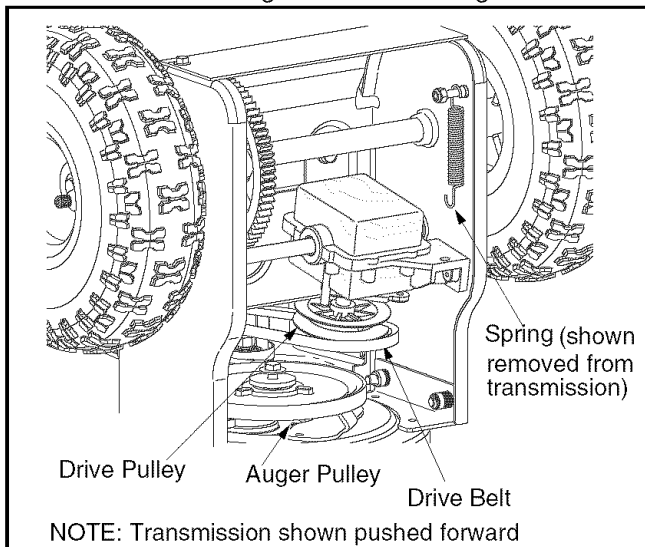

Figure 13
2. Remove the spring that connects the transmission to a bolt on the engine frame. See Figure 13 .